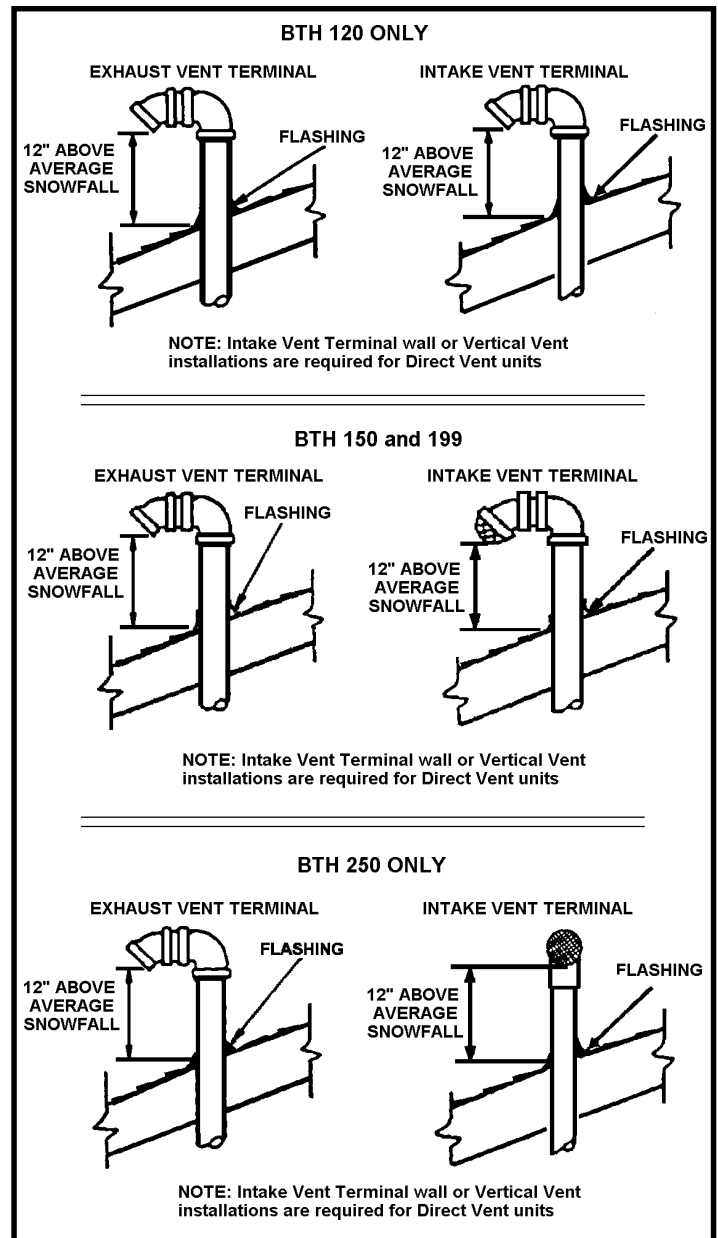

FIGURE 12
6. Terminate intake terminal and exhaust vent terminal facing down as shown in Figure 12.